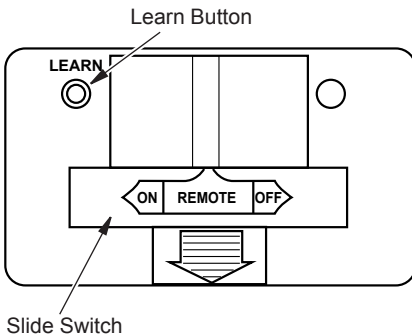

Figure 19 - Receiver
4. Press the ON button on the remote control to light the burner (see Figure 19). You will hear a series of beeps. This will also "learn", or program, the remote and the receiver.